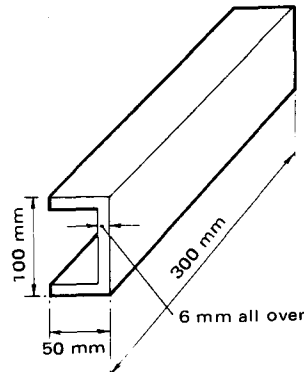

Fig. 1.45
**Example.** Find the volume of the channel section shown in Fig. 1.45.